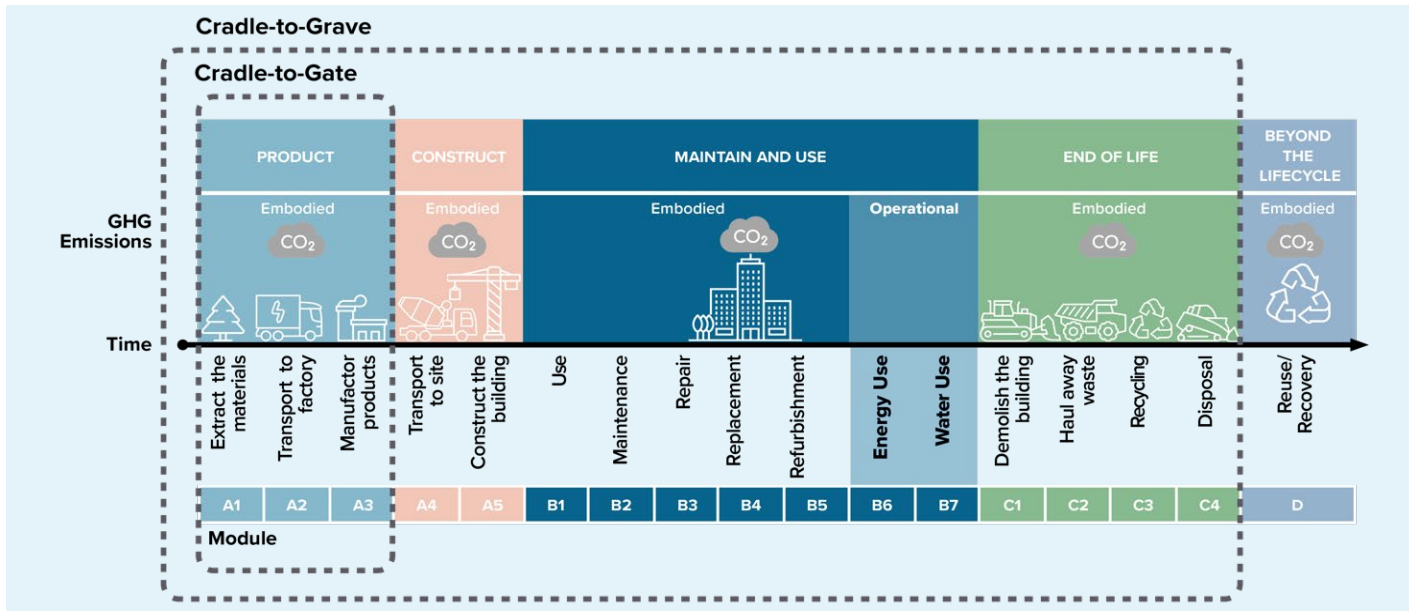

Figure 2: Life Cycle Stages and Corresponding Information Modules for Construction Materials and Products
PCRs are developed by consensus-run committees of stakeholders and industry experts, assembled by a program operator. A PCR provides guidance on how EPDs within a product category need to be developed. It prescribes system boundaries, the declared or functional unit to be used, how to define each life cycle stage of a product, and which impact categories need to be assessed. See Figure 2 for the various system boundaries and life cycle stages of a product. For example, one existing PCR for asphalt mixtures defines the system boundary as the cradle-to-gate life cycle stages and allows two declared units: one metric ton of product and one short ton of product. Reporting consistent units allows users and customers to compare one product to another if the products are using the same PCR. Note that some PCRs have additional comparability requirements that must be followed.
2. Create an LCA. Now that the right PCR has been chosen, what’s next? An LCA needs to be undertaken, and that process starts with data collection. The LCA practitioner or EPD generator software will inform you of the specific data needed. Since that data is often particular to your manufacturing process and embedded in internal systems, you’ll need to work with different teams across the company (such as accounting, operations and procurement) to collect it. The PCR will outline what data should be collected and what life cycle stages (such as cradle-to-gate or cradle-to-grave) need to be reported in the LCA and EPD. See Figure 2 for the life cycle stages.